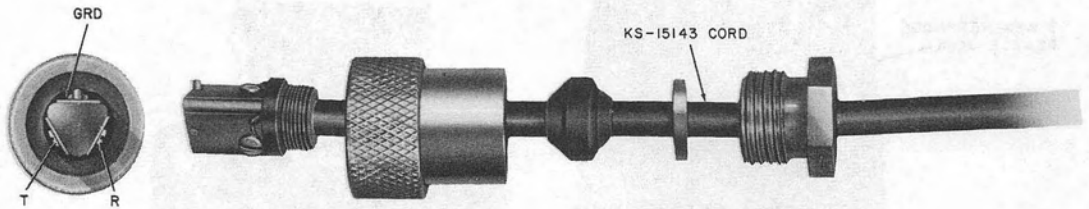

Fig. 52—KS-8419 Plug (MD)
3.08 The KS-8419 plug (Fig. 52) is a 3-contact, brass plug intended for connecting telephone sets installed on boats, trains, or auto trailers to outdoor jacks of PBX or CO lines. This plug is intended for use with KS-8420 jacks.